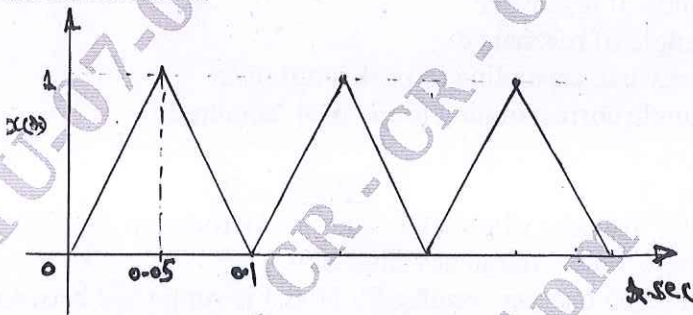

Fig.Q1(c)
- c. A periodic motion is observed on the oscilloscope is illustrated in Fig.Q1(c). Represent this motion by harmonic series.